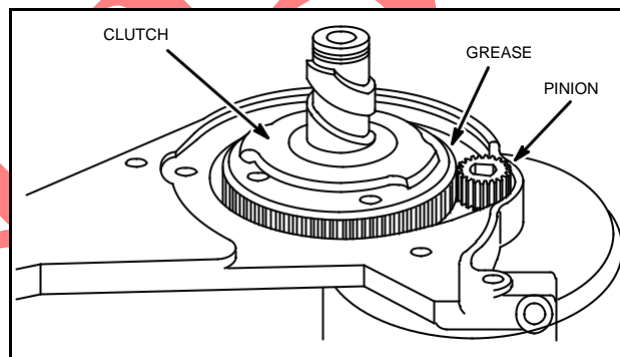

Fig. 660 – LUBRICATING GEARS
10. Slip pinion and starter motor clutch gear on shaft, add a small amount of gear lubricant to gears and install gear cover and gasket, Fig. 660.